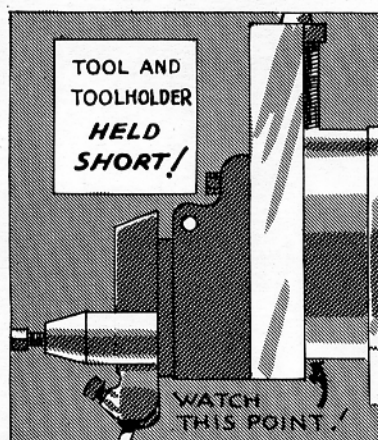

FIG. 249
1. Adjust the tool slide with the down-feed crank so that when additional cuts are taken, the tool slide will not project or overhang more than one inch below the head of the ram (Fig. 249).
6. Hold the tool short in the tool holder (Fig. 249).
7. Place the tool holder or tool in the tool post with the smallest possible amount of overhang (Fig. 249). The reasons for this are to secure the tool rigidly, to prevent chatter in the tool and to prevent undue strain on the tool slide.